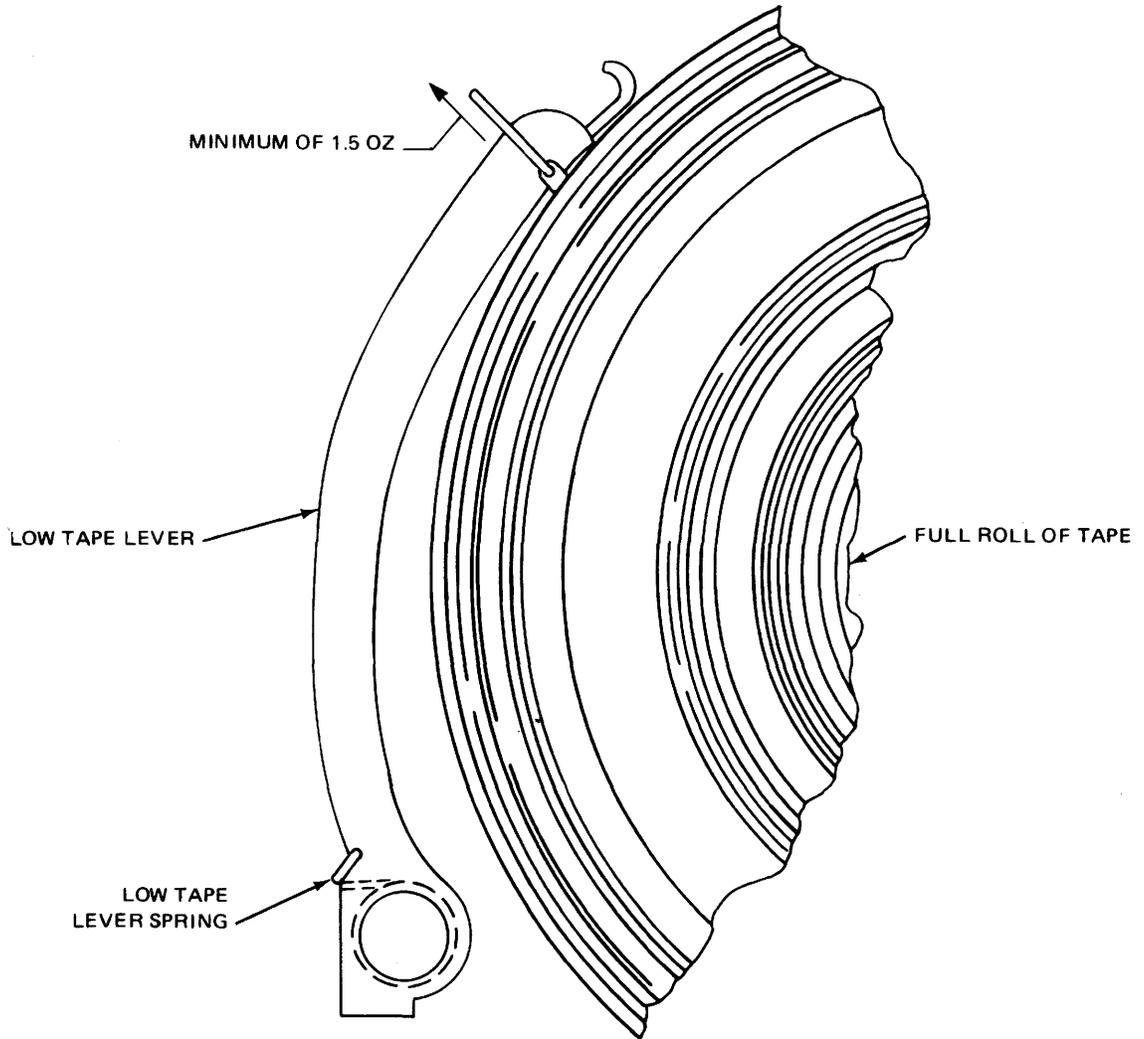

Figure 6-21. Low Tape Lever Spring.
7. Adjust low tape lever spring (see figure 6-21).